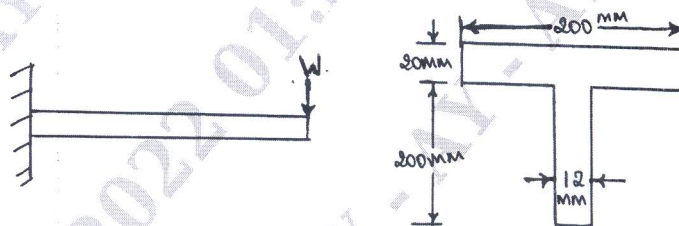

Fig.Q3(b)
- A beam of T-section has a span of 4m and is subjected to a point load as shown in Fig.Q3(b). Calculate the compressive bending stress and plot the stress distribution across the cross section of the beam. The maximum tensile stress is limited to 300 MPa. Calculate the value of 'W'.